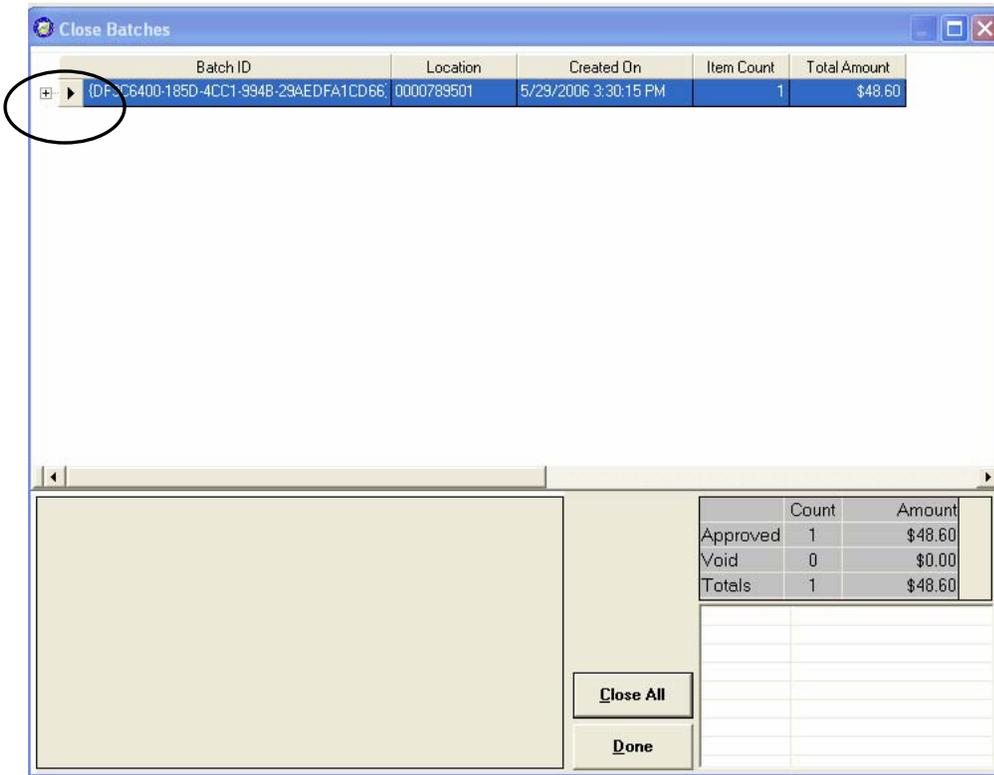
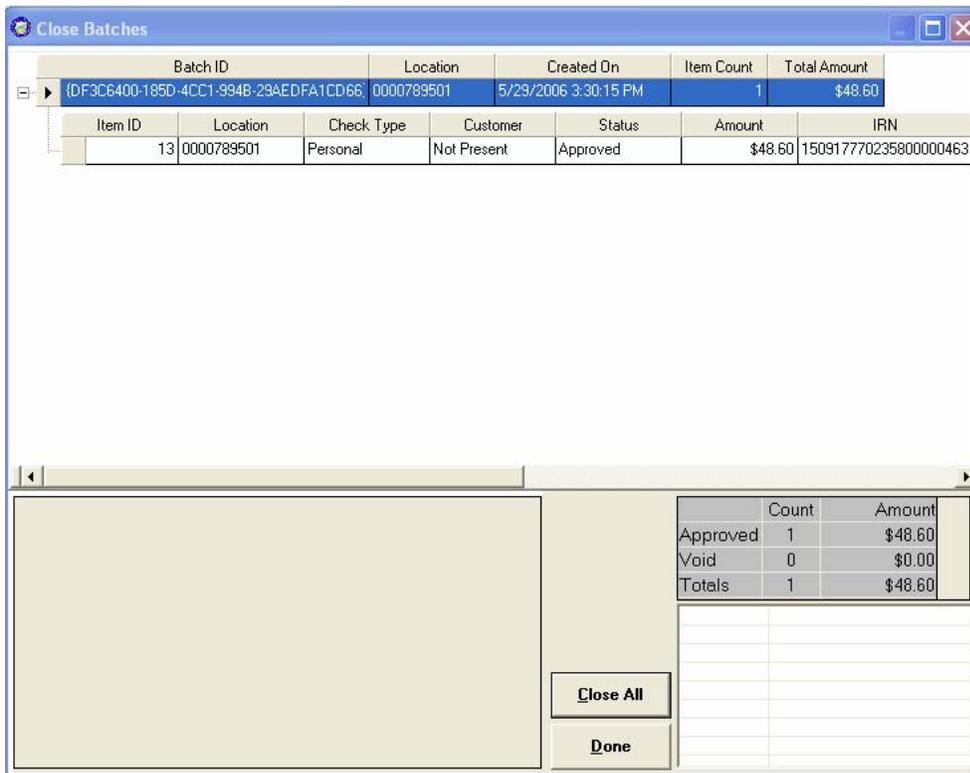

Figure 6.45
Figure 6.46
2. A 'Batch List' window will appear (Figure 6.45). Click the '+' button to show all of the items that have been scanned into the POS computer for that batch (Figure 6.46). Clicking on each item in the upper window will display that item's image in the lower left portion of the window. The lower right side of the window displays the item count and dollar amount of the approved and voided items as well as total count and dollar amounts.